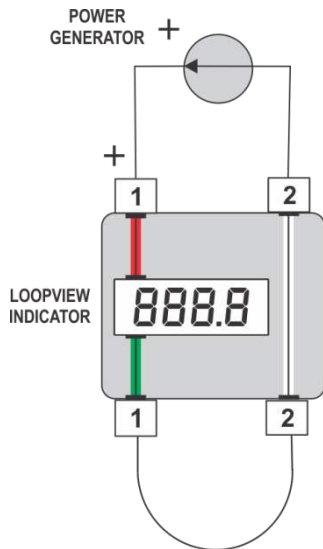

Figure 03 – Power generator
2. Connect the generator to the indicator according to **Figure 03**: